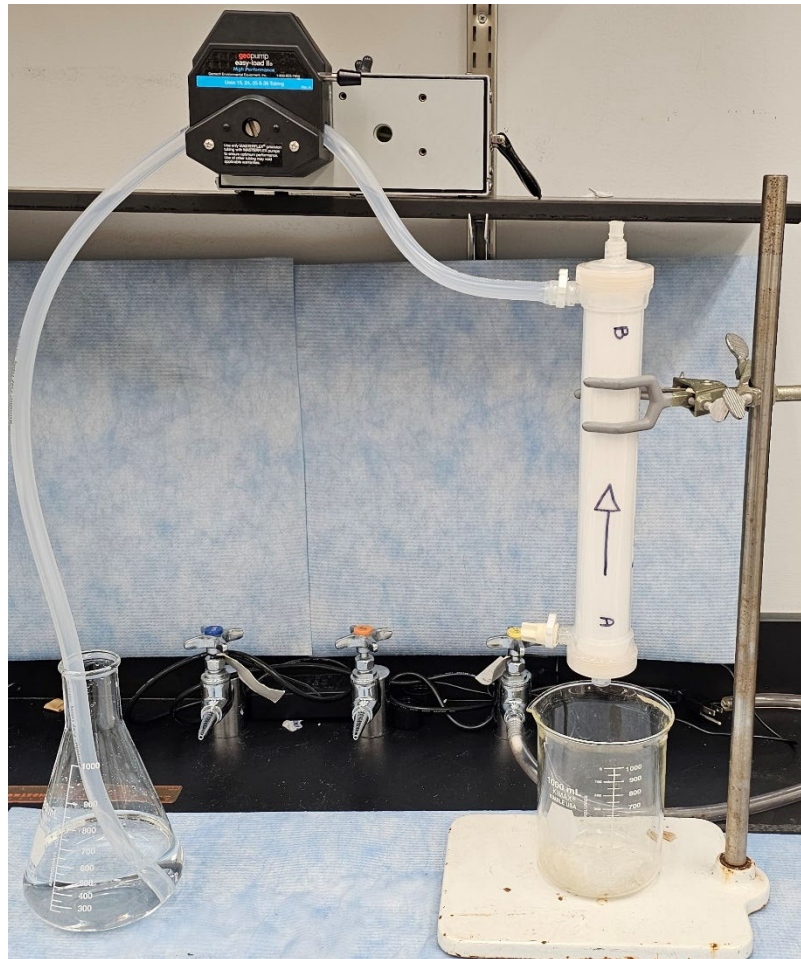

Figure 2. Backflush assembly.
- ii. Assemble the filtration system with one filter, as shown in Figure 2 or 3 depending on how the pump is supported, using the supplies and equipment listed above: